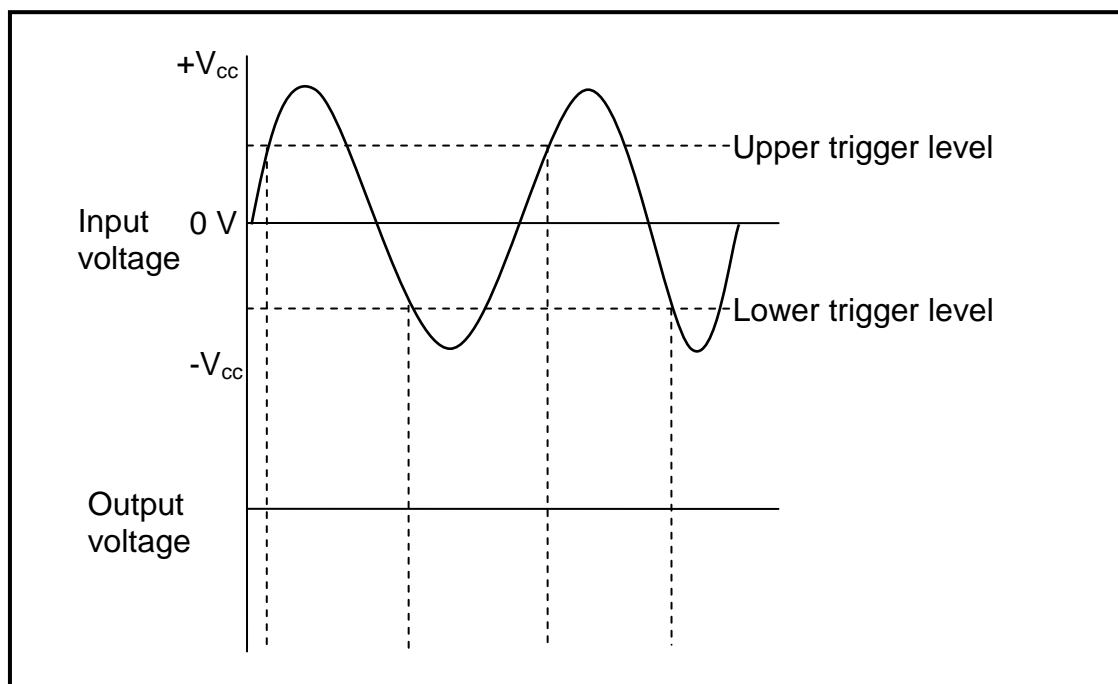

FIGURE 7.3: INPUT WAVEFORM TO AN INVERTING SCHMIDT TRIGGER (6)
7.7.2 Redraw the input waveform shown in FIGURE 7.3 and directly below it draw the output waveform.